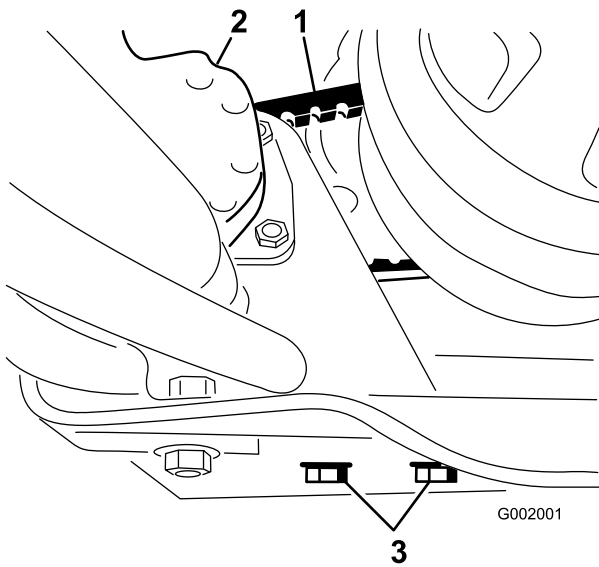

Figure 67
2. Loosen the steering pump mounting bolts (Figure 67).